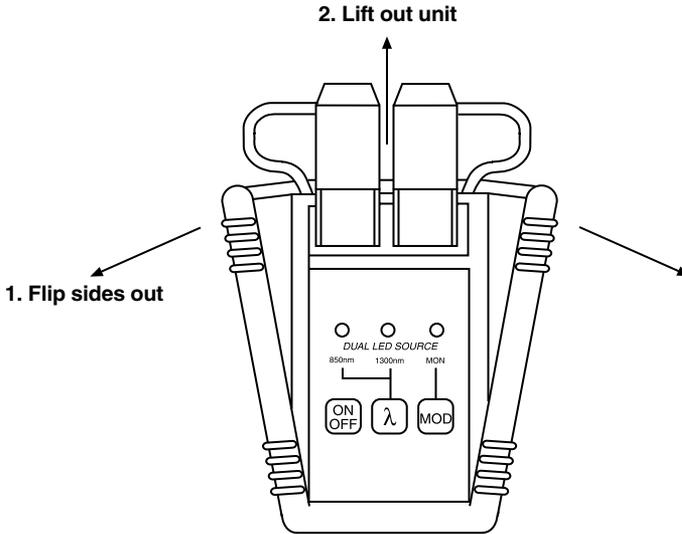

Figure 3-1. Removing the rubber cover (source shown).
1. Carefully remove the protective rubber cover of the source or meter as shown in Figure 3-1.